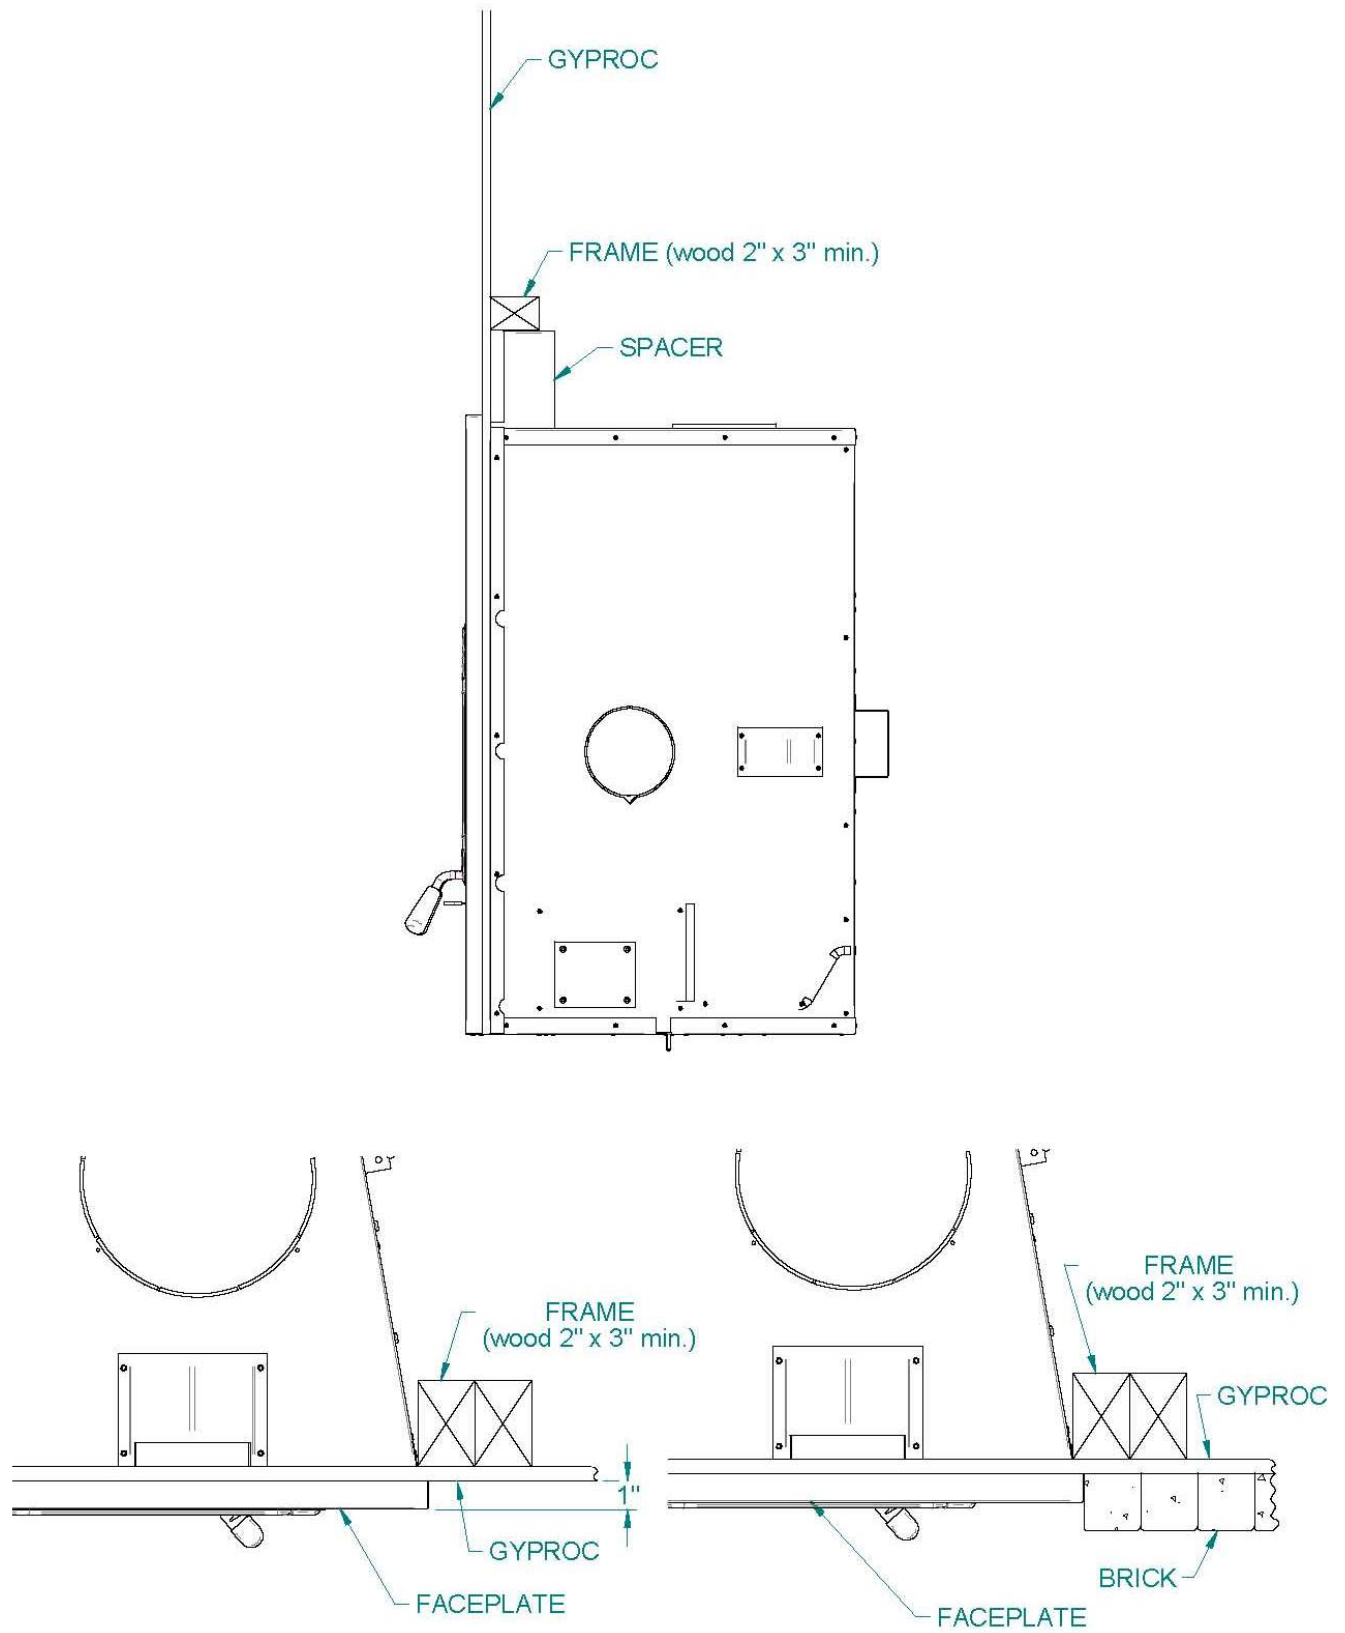

Figure 16
1. Materials directly in contact with the faceplate of the fireplace, especially the vertical and horizontal surround, must be non-combustible and have the minimal dimensions as shown on figure 16.